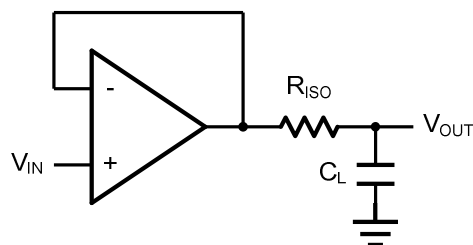
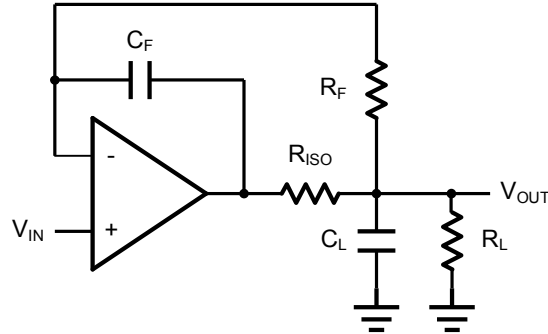

Figure 2. Indirectly Driving a Capacitive Load Using Isolation Resistor
Figure 3. Indirectly Driving a Capacitive Load with DC Accuracy
The OPAx330 family is optimized for bandwidth and speed, not for driving capacitive loads. Output capacitance will create a pole in the amplifier's feedback path, leading to excessive peaking and potential oscillation. If dealing with load capacitance is a requirement of the application, the two strategies to consider are (1) using a small resistor in series with the amplifier's output and the load capacitance and (2) reducing the bandwidth of the amplifier's feedback loop by increasing the overall noise gain. Figure 2. shows a unity gain follower using the series resistor strategy. The resistor isolates the output from the capacitance and, more importantly, creates a zero in the feedback path that compensates for the pole created by the output capacitance.
The circuit in Figure 3 is an improvement to the one in Figure 2.  $R_F$  provides the DC accuracy by feed-forward the  $V_{IN}$  to  $R_L$ .  $C_F$